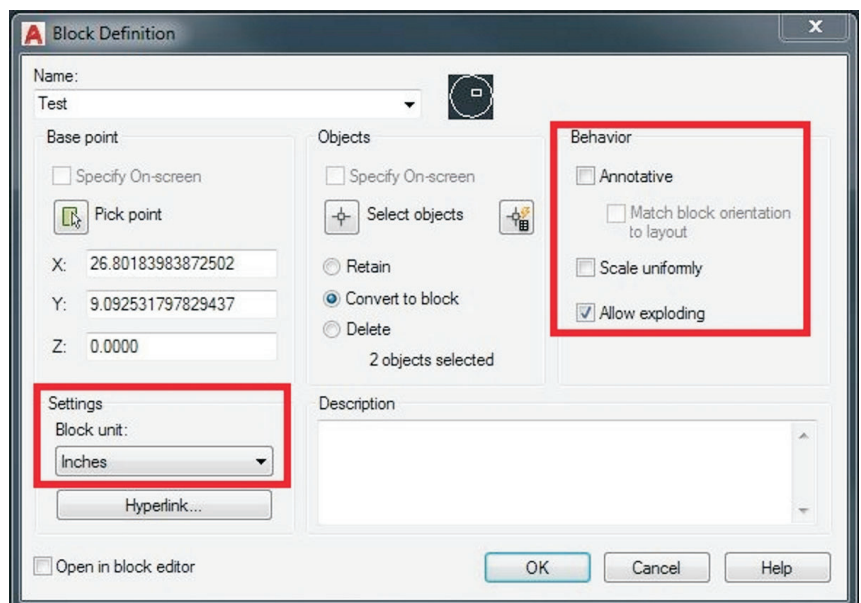

FIGURE 8. AutoCAD's Behavior Options in the Block Definition Dialog Box. (AutoCAD screen shot reprinted with the permission of Autodesk, Inc.)
- ◆ The behavior category of the block definition dialog box has three categories; annotative, scale uniformly, and explode. Leave all options unchecked except for explode as shown in FIGURE 8. If explode is not checked the block can never be exploded. Also make sure the settings category is set to inches.